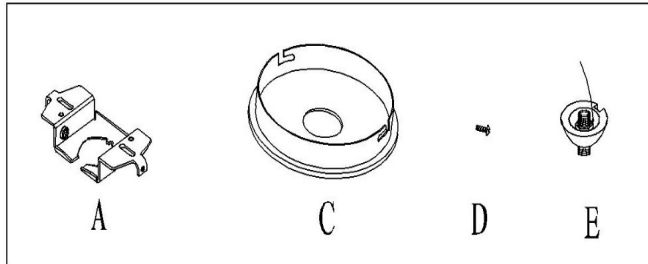

Fig.4
SUGGESTED INSTALLATION (Fig. 1 Fig.4)
- 3 Pass the wires through nipple (G) on top cover (I) and top cover (I) to ceiling plate (J) with screws (H).
- 4 Loosen screws (D) and remove mounting plate (A) from canopy (C). Attach mounting plate (A) (part#LTG BKT10) to the junction box using mounting screws (B) (size:8-32*1/2"L) as illustrated in (Fig. 4).
- 5 Determine the desired hanging height and thread rods F1 (Part#W35-1-066), F2 (Part#W35-1-066), F3 (Part#W35-H-066) to nipple (G). Pass the wires carefully through each rod during assembly. Next place canopy (C) over rods (F) and thread hanger ball (E) to rod (F). Please remove the nipple if installing with one 6" rod only.
- 6 While holding the fixture body, install the fixture into the mounting plate (A) by tilting at a slight angle so that the hanger ball (E) slips into the mounting plate (A) as shown. Align the notch in the hanger ball (E) to the tab on the mounting plate (A) to prevent the fixture from turning.
- 7 At this point, connect the electrical wire as shown in figure 4, making sure that all wire connectors are secured. If your outlet has a ground wire (green or bare copper), connect the ground wire from the hanger ball and mounting plate to it. Otherwise, connect the ground wire from hanger ball directly to the mounting plate ground wire and secure with wire connectors provided. After the wires are connected, tuck them carefully into the ceiling junction box
- 8 Align canopy (C) over mounting plate (A) and secure with screws (D)
- 6 Loosen the connectors from the lamp and remove the excess wire. At this point, connect the electrical wires as shown in Fig. 4, making sure that all wire connectors are secured. If your outlet box has a ground wire (green or bare copper), connect the fixture's ground wire to it. Otherwise, connect the fixture's ground wire directly to the ceiling plate (J) using the green screw (U) provided. After wires are connected, tuck them carefully inside the junction box.
- 7 Rotate ceiling plate (J) into fixture cage (N), and secure it with screw (K).